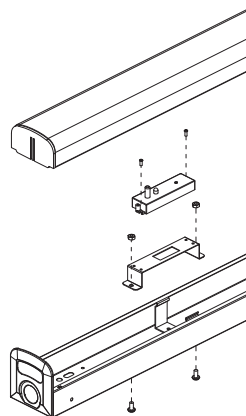

Fig 2
1. Screw the bracket to the housing as shown in Fig.2 .